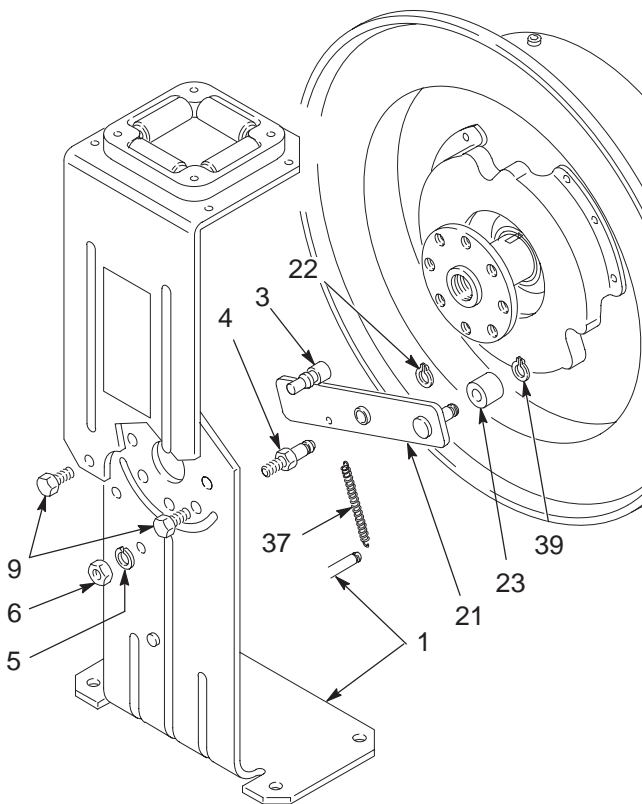

Fig. 10
If the reel latch (21) fails to latch, replace the latching mechanism. See Fig. 10.